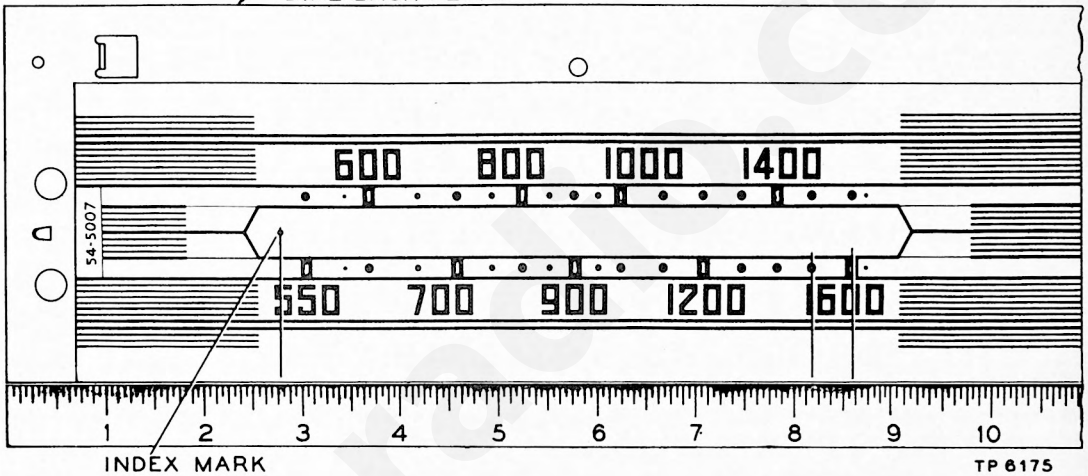

Figure 1. Calibration Measurements for Dial Backplate
**DIAL**—Calibration and pointer-index measurements are shown in figure 1. With tuning condenser fully meshed, set pointer to index mark.